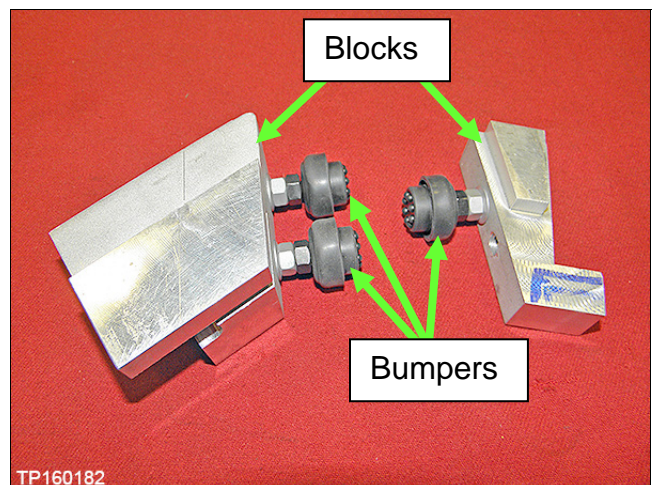

Figure 10
9. Install two bumpers onto one block and one onto the other (see Figure 10).
10. Thread the bumpers all the way into each block (Figure 10).